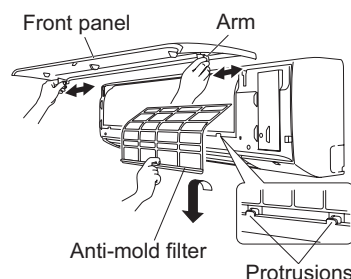

Fig. 2-241
- (1) Open the front panel until it is nearly horizontal, grasp the sections near the front panel arms on both sides, and then remove the panel by pushing the arms towards the outside while pulling the panel towards you.
- If the front panel is difficult to remove, grasp both ends of it and lift it up slightly. Move it to the left and disengage the left arm, then move it to the right and disengage the right arm. (Fig. 2-241)
- (2) Lift the anti-mold filter up slightly to disengage it from the protrusions on the unit, and then pull downward to remove the filter from the unit. (Fig. 2-241)